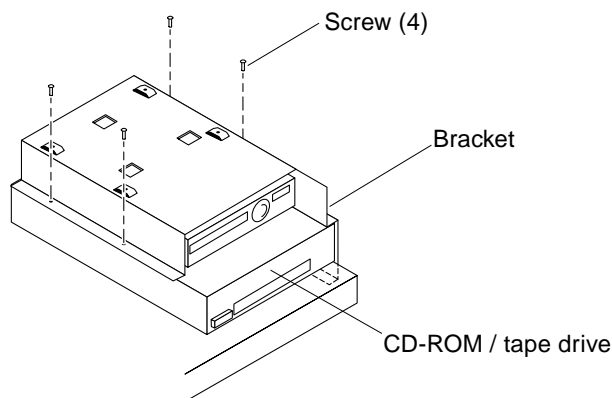

Figure 2-10 Positioning the CD-ROM/Tape Drive
9. Use a Phillips screwdriver to remove the four screws securing the CD-ROM or tape drive to the drive bracket (Figure 2-10).